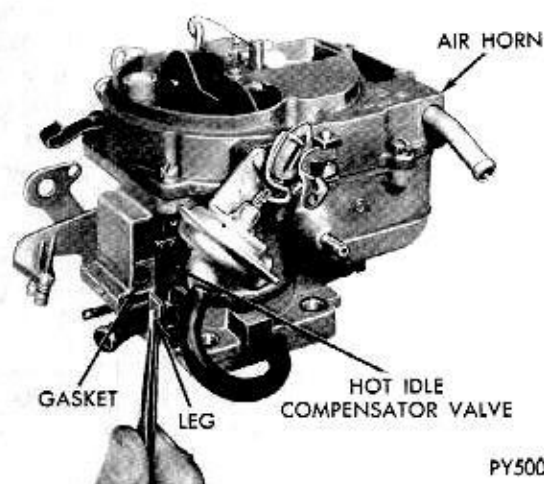

Fig. 3—Removing or Installing Hot Idle Compensator Valve
(6) Remove vacuum diaphragm and bracket assembly and place to one side, to be cleaned as a special item. **A liquid cleaner may damage the diaphragm material.**
(7) Remove screws that attach hot idle compensator valve cover to main body. Remove cover and lift out hot idle compensator valve and gasket. (Fig. 3).
(8) Remove air horn retaining screws and lift air horn straight up and away from main body. Discard gasket (2 screws recessed).
(9) Disengage accelerator pump plunger from accelerator pump arm by pushing up on bottom of plunger and sliding plunger shaft off hook. Slide plunger out of air horn and remove compression spring and seat. Remove bowl vent valve cover.